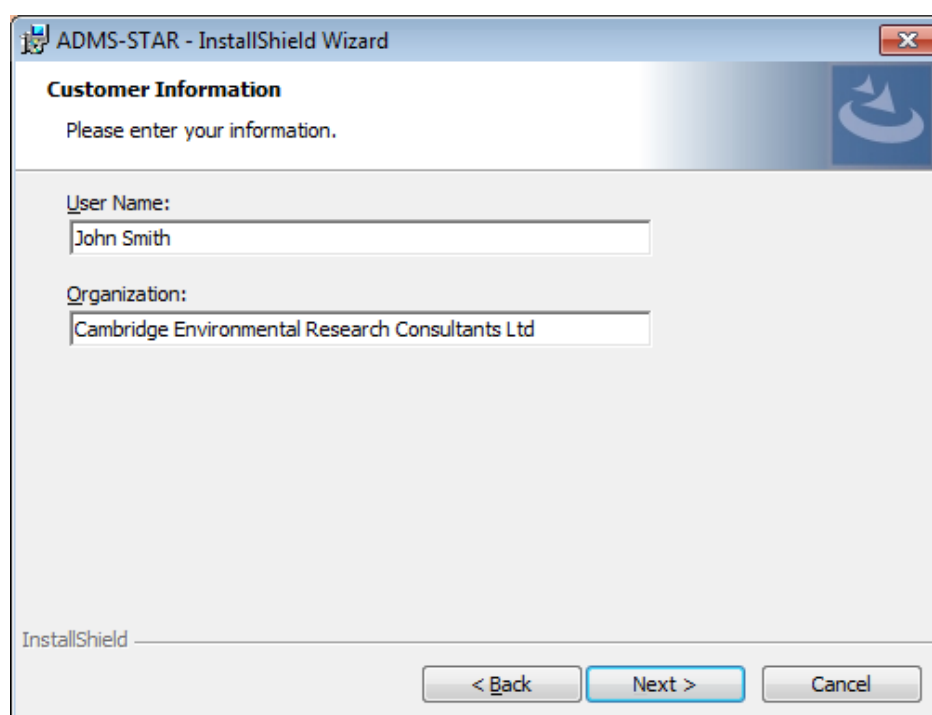

Figure 2.2 - The ADMS-STAR **Customer Information** screen
Step 3 Click **Next>** through the **Welcome** screen. Select **I accept the terms of the licence agreement**, and click **Next>** in the **Licence Agreement** screen, if you accept the licence terms. The **Customer Information** screen is then displayed, as shown in **Figure 2.2**. If you do not accept the licence terms select **I do not accept the terms of the licence agreement** and click **Next>** to finish the install.